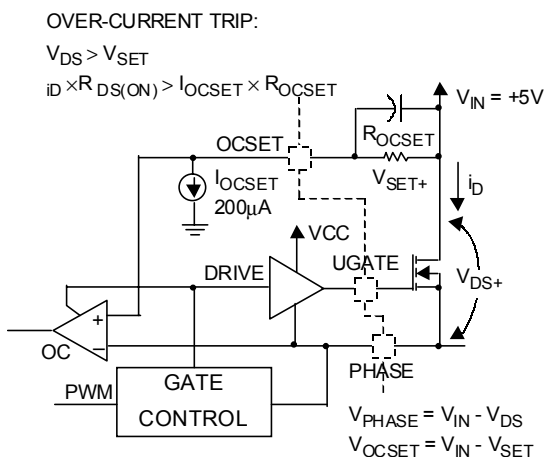

Fig.6 Current Limiting Setting
An external resistor ( $R_{OCSET}$ ) programs the over-current trip level for the PWM converter. As shown in Fig.6, the internal 200 $\mu$ A current sink ( $I_{OCSET}$ ) develops a voltage across  $R_{OCSET}$  ( $V_{SET}$ ) that is referenced to  $V_{IN}$ . The DRIVE signal enables the over-current comparator (OC). When the voltage across the upper MOSFET ( $V_{DS(ON)}$ ) exceeds  $V_{SET}$ , the over-current comparator trips to set the over-current latch. Both  $V_{SET}$  and  $V_{DS}$  are referenced to  $V_{IN}$  and a small capacitor across  $R_{OCSET}$  helps  $V_{OCSET}$  track the variations of  $V_{IN}$  due to MOSFET switching. The over-current function will trip at a peak inductor current ( $I_{PEAK}$ ) determined by: